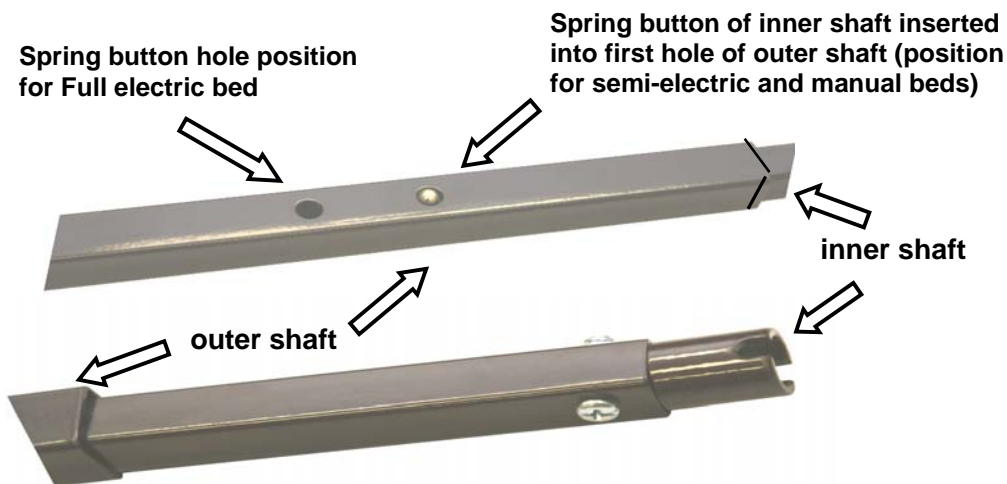

Figure 11: Cut-away detail of drive shaft: inner shaft already placed in outer shaft
3. Connect the drive shaft to the bed by attaching either end of the drive shaft to the headboard gearbox. See Figures 11 & 12. Then: